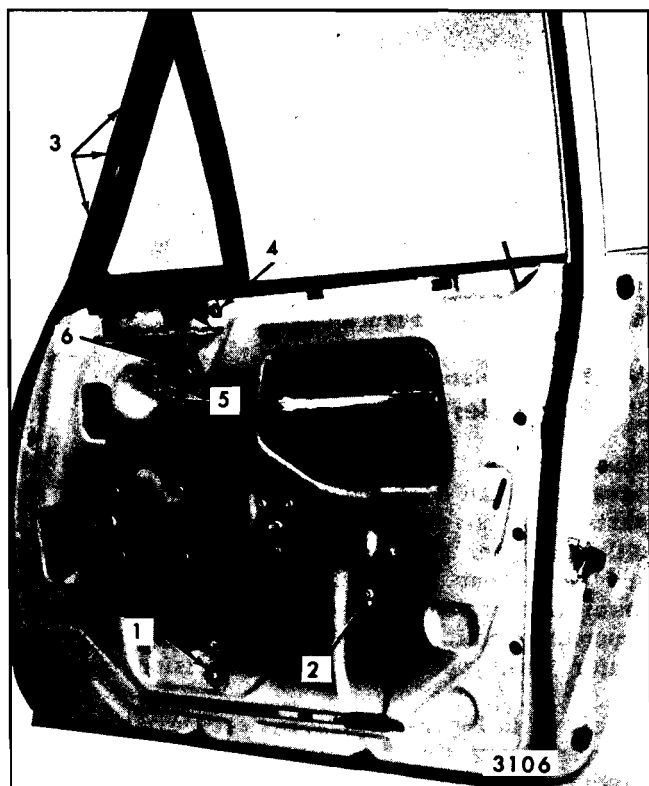

Fig. 6-70—Front Door Ventilator and Window Removal and Adjustments - "A" Closed Styles
2. Remove ventilator T-shaft bolt ("6", Figure 6-70) and ventilator regulator to inner panel attaching bolts ("4", Figure 6-70).
2. With window in up position, loosen down stop support attaching bolts and remove support ("2", Figure 6-70).
4. Lower window to full down position and remove bolt securing ventilator lower frame to door outer panel ("4", Figure 6-70).
5. Remove division channel lower adjusting stud nut ("1", Figure 6-70).
6. Remove ventilator to door upper frame attaching screws ("3", Figure 6-70). Disengage upper front end of glass run channel from door upper frame to permit rearward movement and removal of vent from door upper frame (refer to glass run channel removal procedure).
Some in-and-out, or fore-and-aft adjustment of the ventilator division channel is available at the lower adjusting stud ("1", Figure 6-70). Adjustment at this location is required only to eliminate any misalignment between the ventilator division channel and window glass run channel.